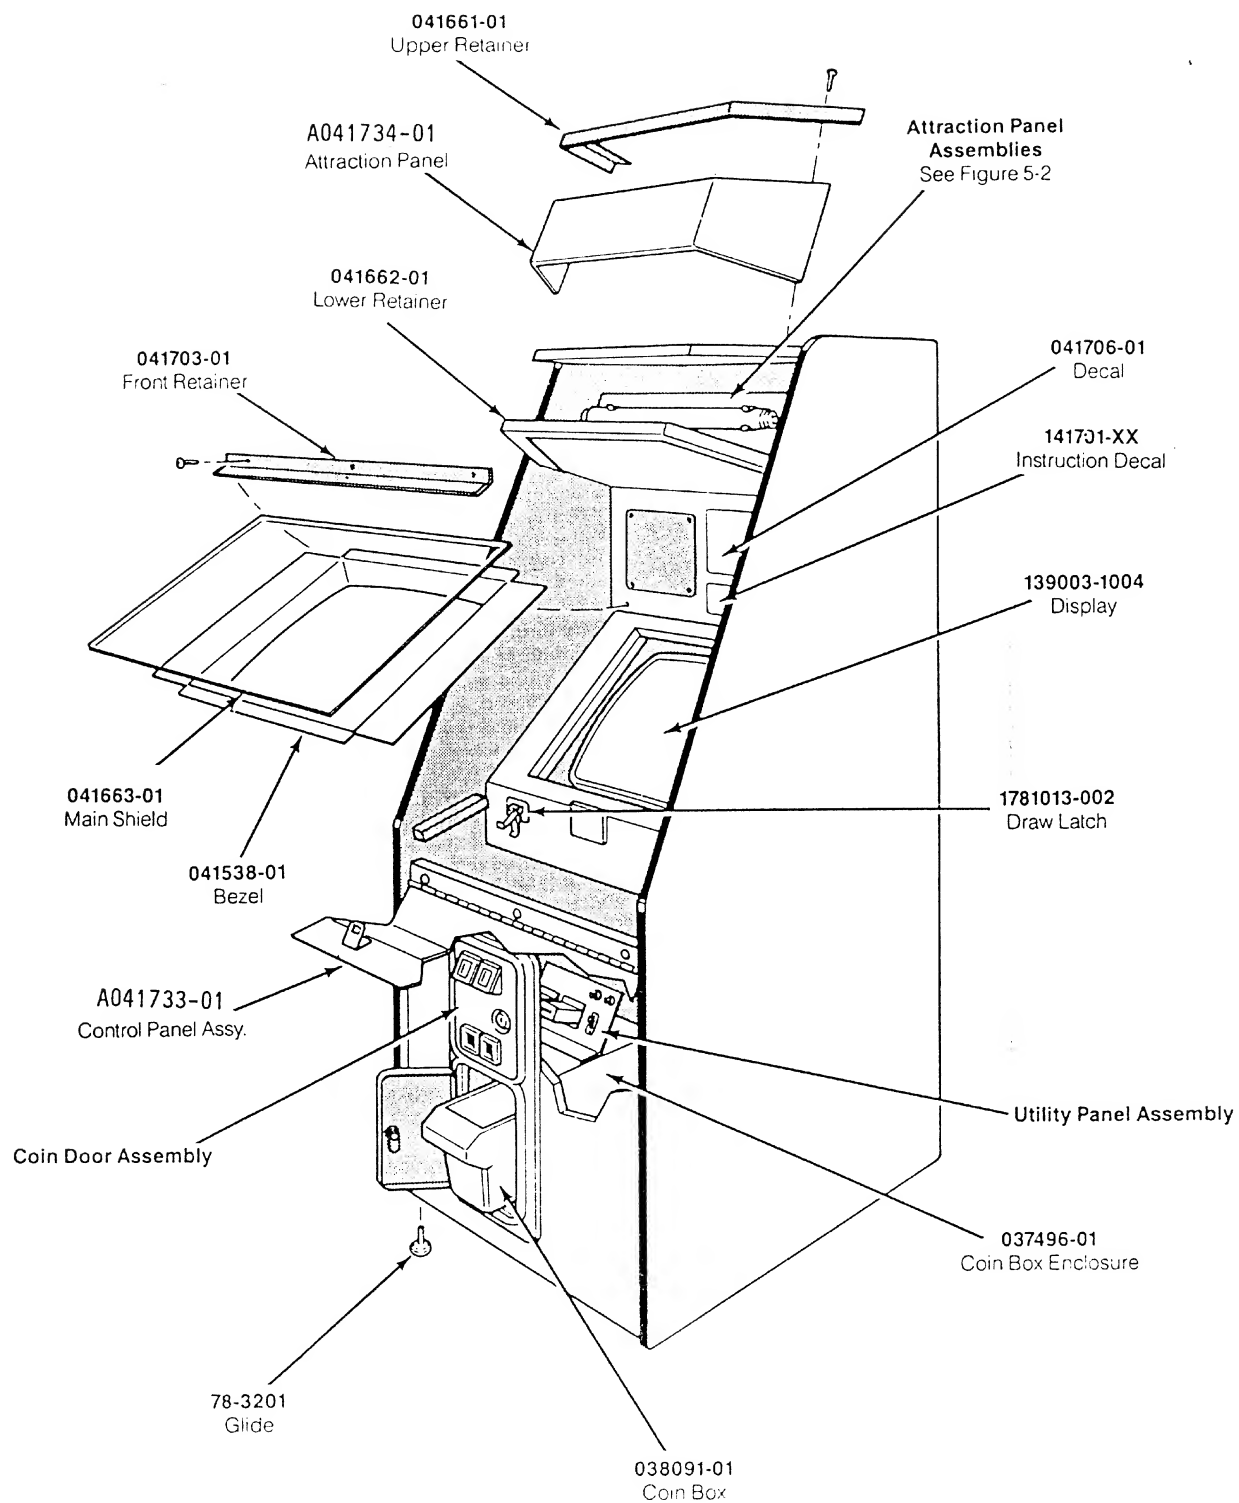

FIGURE 1. ATTRACTION PANEL AND CONTROL PANEL REPLACEMENT.
1. Use 1/8" Square Drive to remove the three screws (See Fig.1) that fasten the top retainer to the cabinet. Remove the retainer.